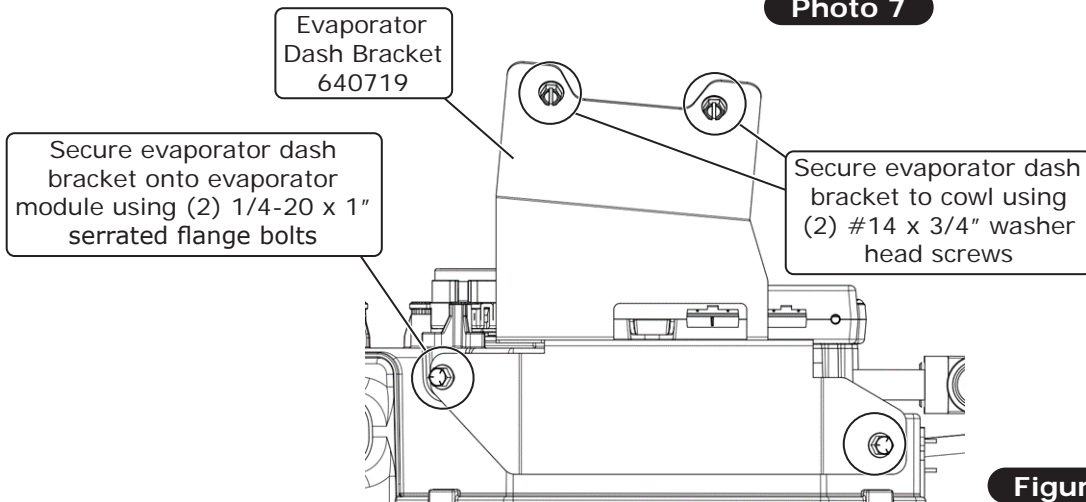

Figure 1
6. Install (2) 1/4-20 well nuts onto the evaporator module (See Photo 7, below).
7. Position the evaporator dash bracket under the glove box door mounting holes, then secure it onto the evaporator module using (2) 1/4-20 x 1" serrated flange bolts (See Figure 1, below).
8. Make sure that module is level front to back and side to side. Secure the evaporator dash bracket to the cowl using (2) #14 x 3/4" washer head screws (See Figure 1, below).